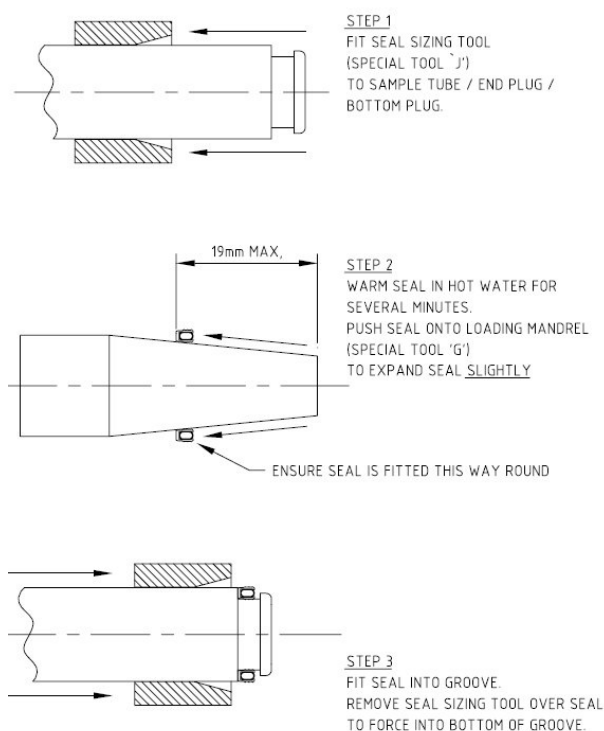

Figure 14 – Vacuum Breaker Fastener
Remove the Fastener (Figure 14, item 48) from the stem of the Vacuum Breaker Valve and discard.
Ensure the New Fastener (Figure 14, item 48) is assembled to the stem of the Valve as per illustration Figure 14 and engages in the retaining groove.